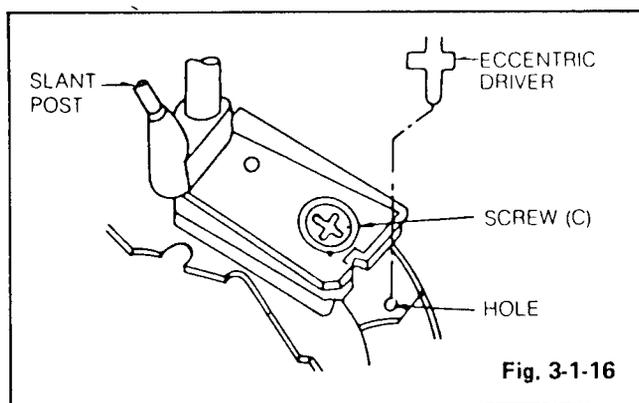

Fig. 3-1-16
e) If the tape is curled between P3 and Erase-head, which are separated from the E-head and the inertia roller, loosen the screw (C) a little (as shown in Fig. 3-1-16), insert the eccentric driver into the hole, turn right and left, and adjust the right and left slant post so that tape will not be distorted or wrinkled.